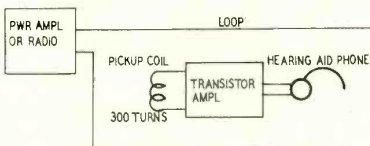

Fig. 5—Speech-on-loop diagram.
**Speech on loop** Wireless communication within a certain area—a garden, house or room—is often established with a "speech-on-loop" system. A loop of wire surrounds the area. The loop is connected to the low-impedance output of a power amplifier (Fig. 5). The receiver consists of a small pickup coil connected to an earphone via the amplifier. The receiver picks up messages or music transmitted by the big loop everywhere inside as well as for some distance outside of it.